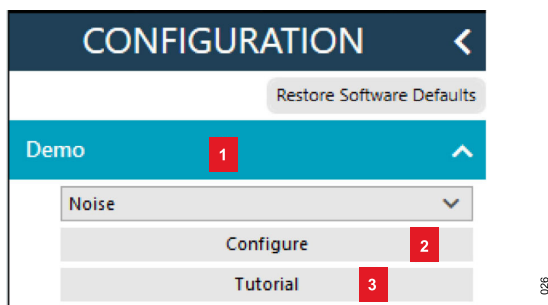

Figure 26. Configuration (Expanded View)
2. To see the settings required for the demo, click **Tutorial** before writing to the **AD4190-4** (Label 3, Figure 26). Click **Configure** (Label 2, Figure 26) to write these settings to the board.